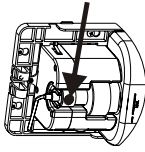

Fig. 6
5. Ensure that the two-toothed plastic fork at the top of the pump recess in the control box is in place, allowing for the soap container with pump to be pushed in place in the recess (cf. Fig. 6).